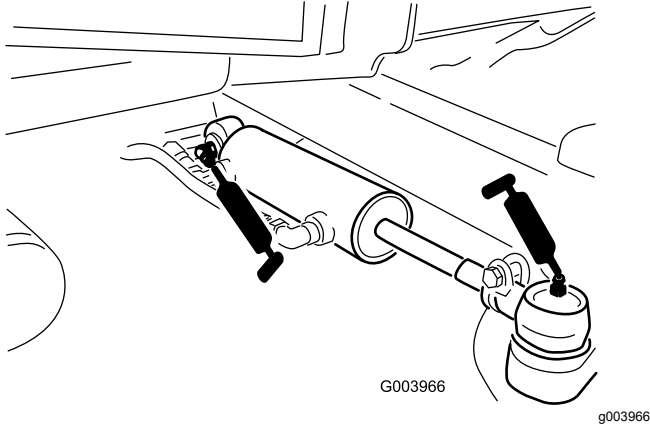

Figure 75
- Steering-cylinder ball joints (2) (Figure 75)